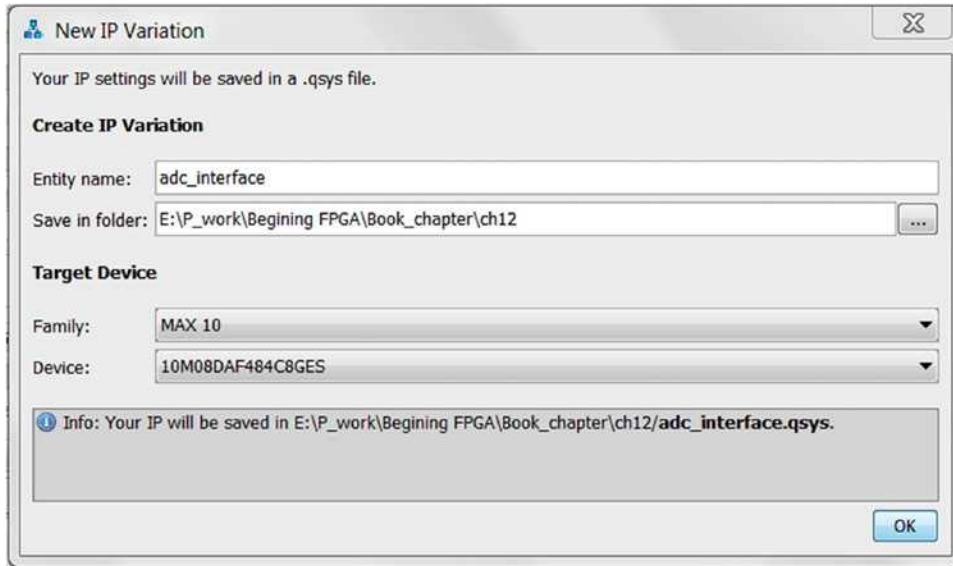

Figure 12-8. New IP variation window for ADC interface IP
Step 3: A new IP variation window will appear as Figure 12-8. Enter **adc_interface** in Entity name. The Save in folder location is your project folder location. You don't need to change the family and device setting. Click **OK**.